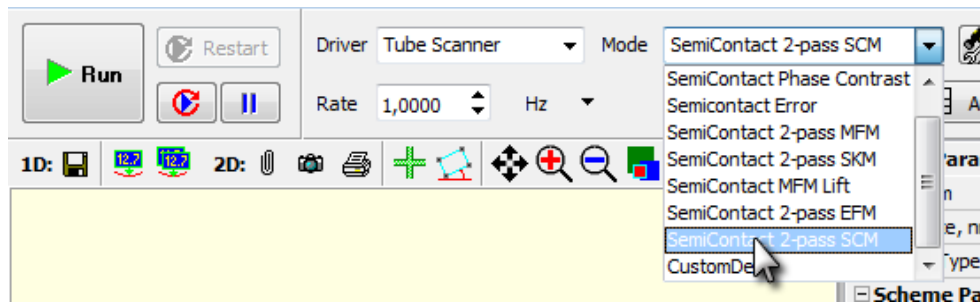

Fig. 9-25. Selection of Scanning Capacitance Microscopy mode
1. After the completion of preliminary measurements of surface topography by the Semicontact Mode, switch the instrument for operating in the SCM mode by selecting **SemiContact 2-pass SCM** of the Control panel of the **ScanForm** window (see Fig. 9-25). The **Height** signal will be selected for detection on the first pass and the **Mag** signal – on the second pass.